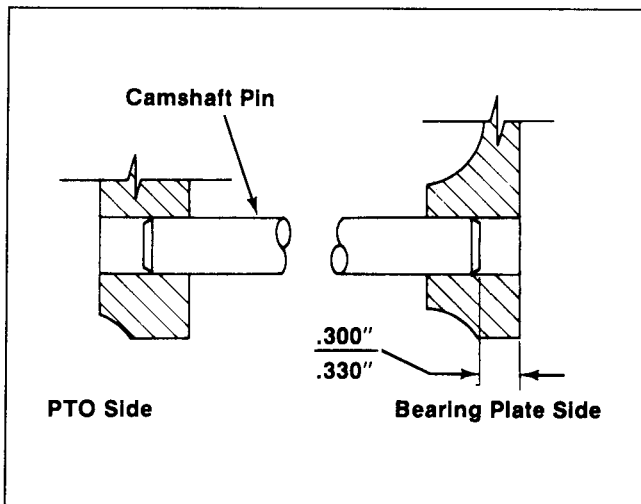

Figure 12-8. Installing Camshaft Pin.
- b. For Models K241, K301, K321, and K341 – drive the camshaft pin to a depth of $.300''$ / $.330''$ from the machined bearing plate gasket surface. Refer to Figure 12-8.